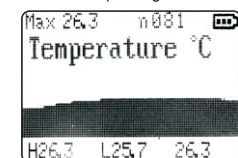

Figure 7
2. Data interface of memory area 2 (Figure 7)